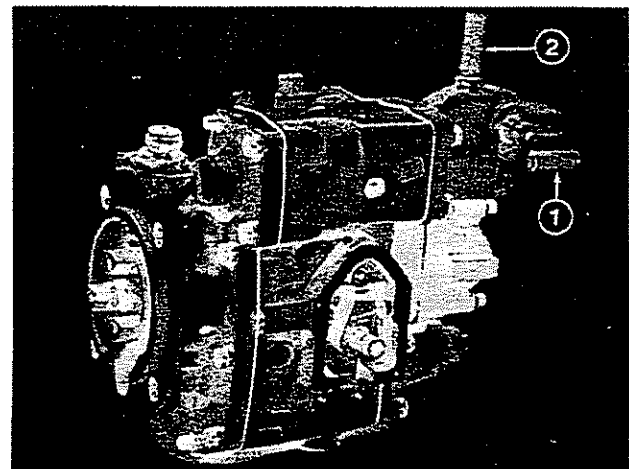

Fig. 1-25 (OM21001). PT (type G) Fuel pump with VS governor
- a. On engines without a throttle delay cylinder, the speed adjustment **must** be made by adjusting the governor idle and maximum speed screws. The idle screw (1) is housed in the back of the governors. The maximum speed screw (2) is at right angles to the idle speed screw. See Figures 1-25 and 1-26. Engine slow down is accomplished by turning the idle screw **counterclockwise** and turning the maximum speed screw in a **clockwise** direction. To increase the engine speed reverse the procedure.